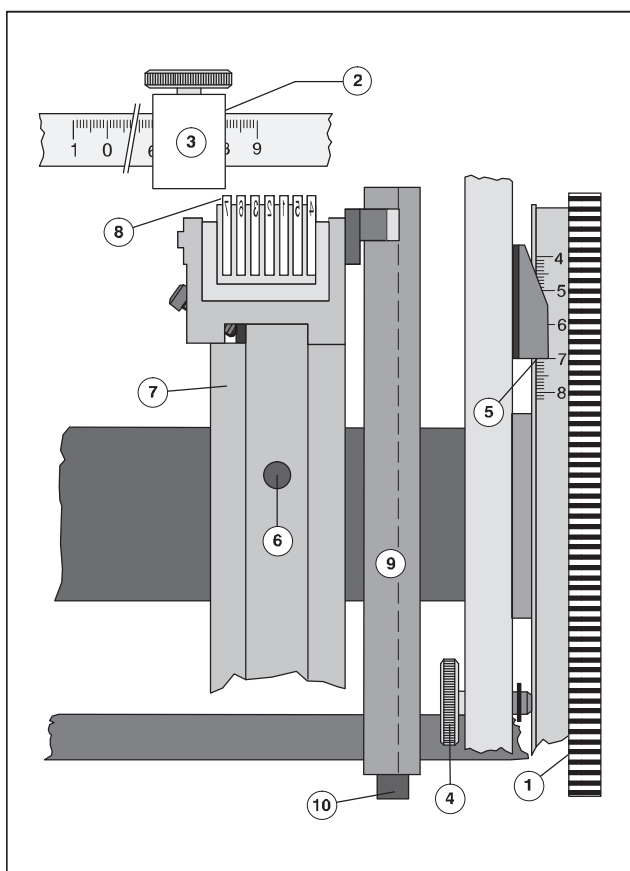

Fig. 45 Aligning the numbering boxes horizontally
- Horizontal positioning of the figure from the sheet edge: 171.5 mm minus 91.5 mm = 80 mm; corresponds to a setting of 8 on the measuring scale (Fig. 45/2).
1. Slide the caliper (Fig. 45/3) to the right, set the outer edge to 8 and secure the position with knurled head screw.
2. Slacken the Allen screw (Fig. 45/6) on the mounting ring.
3. Move the mounting ring (Fig. 45/7) until the outer edge of the digit of the unit wheel (Fig. 45/8) is in line with the caliper edge (Fig. 45/2).
4. Retighten the Allen screw (Fig. 45/6) to fix the mounting ring in place.
6. Push the drive cam (Fig. 45/9, here LH) to the setting gauge and secure the position with the two Allen screws (Fig. 45/10) on the control shaft.